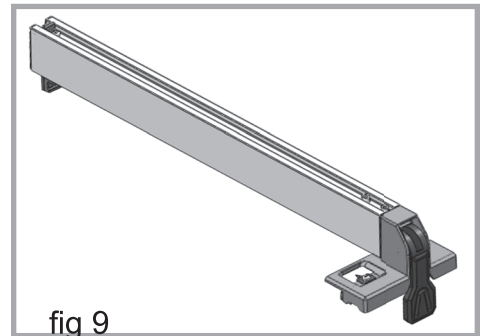

fig 9
1. The fence is pre-assembled in the carton (fig 9).